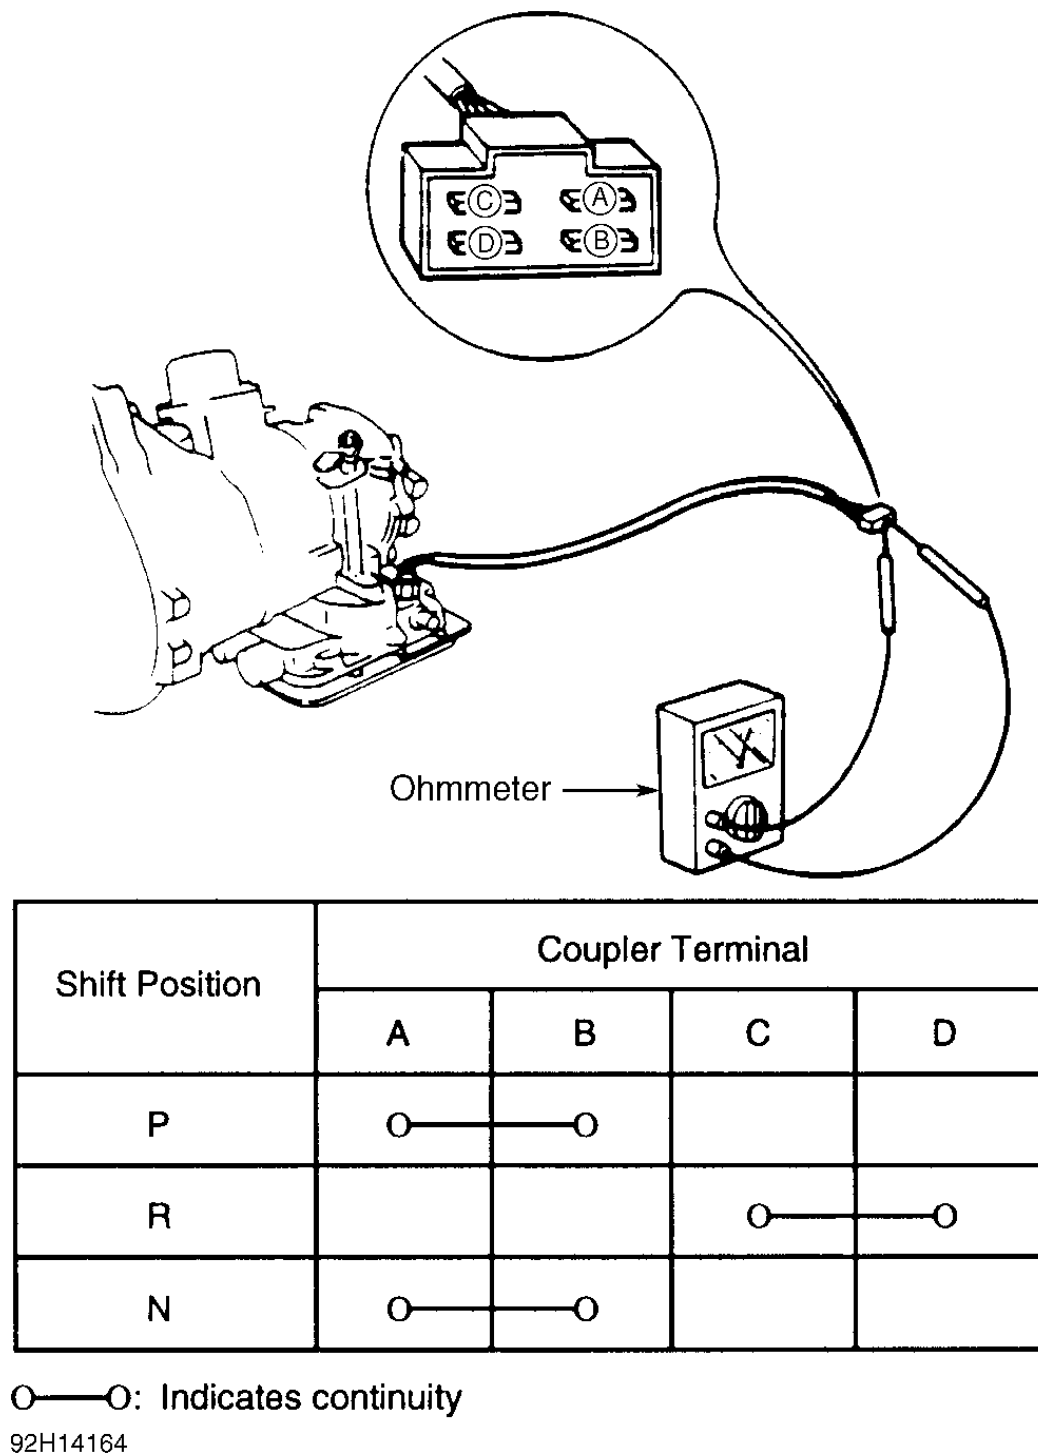

Fig. 4: Testing Park/Neutral Switch
1. Ensure engine starts in "P" or "N". Ensure back-up lights glow when ignition is on and selector lever in "R". If park/neutral switch is not operating properly, disconnect connector at transaxle and check continuity between terminals. See Fig. 4 . If continuity is not as indicated, replace park/neutral switch.